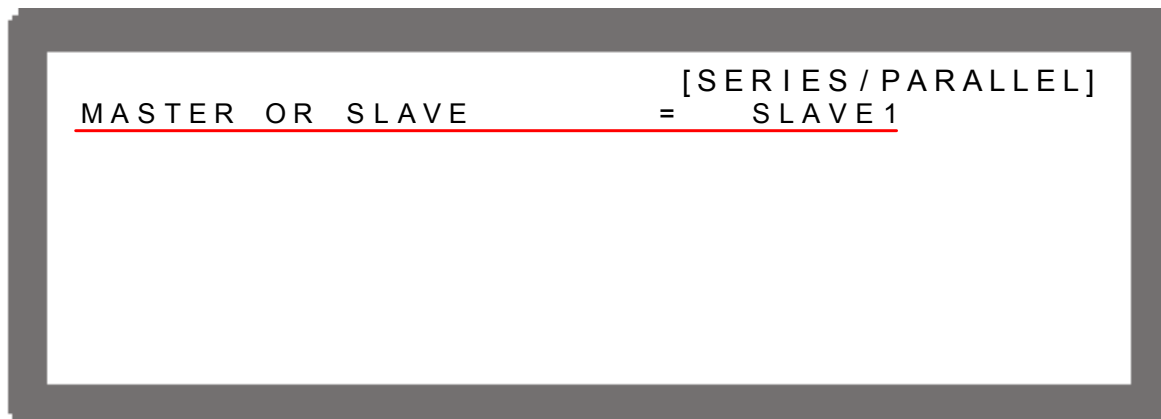

Figure 3-39
- Use the numeric (1~4) keys or “Rotary” (⊙) knob to set SLAVE1~SLAVE4 as Figure 3-39 shows.